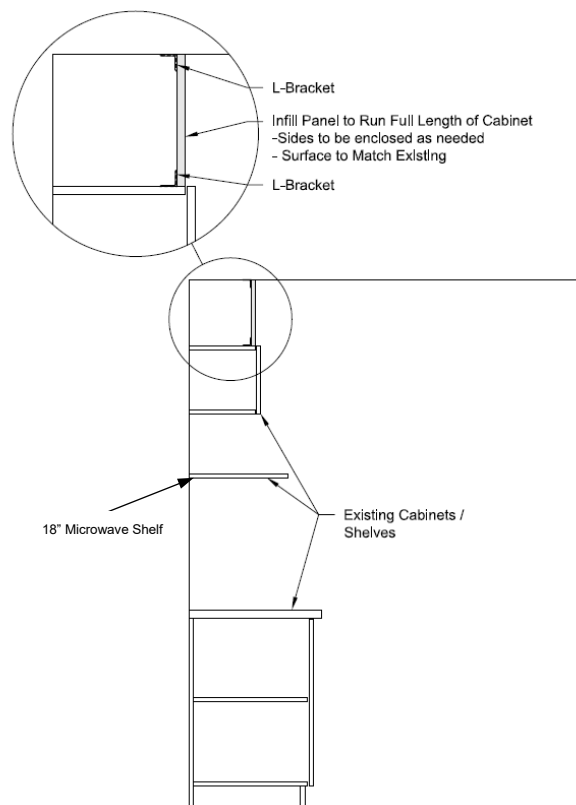

Figure 06 41 00-1
1. Where microwaves are to be installed provide a shelf with an overall depth of 18" as shown in Figure 06 41 00-1.